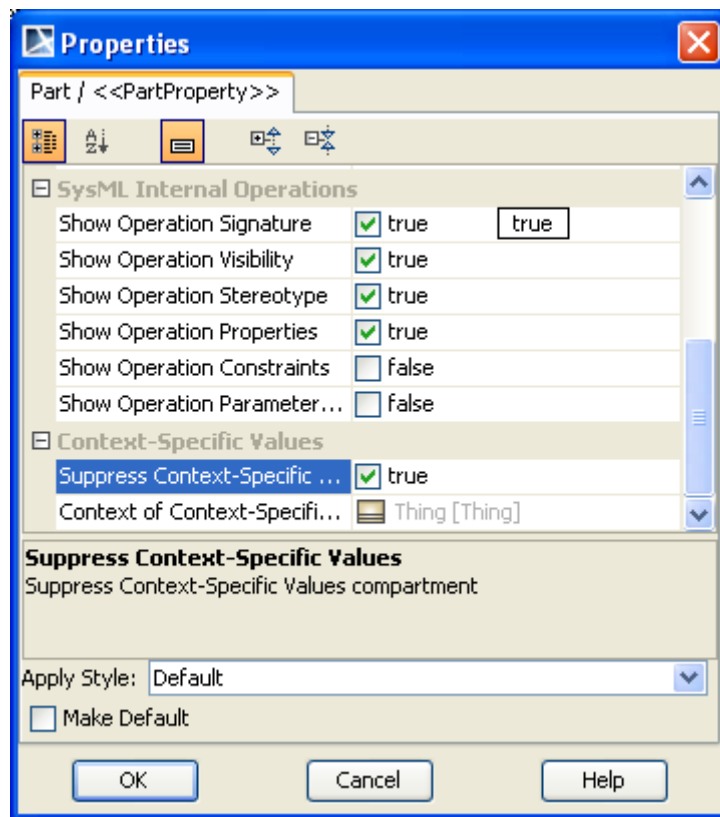

Figure 228 -- Symbol(s) Properties Dialog
- In the **Symbol(s) Properties** dialog, set the value of the **Suppress Context Specific Values** symbol property under the **Context Specific Values** group to **false** by clearing the check box (Figure 228).
- In the **Symbol(s) Properties** dialog, set the value of the **Suppress Context Specific Values** symbol property under the **Context Specific Values** group to **true** by selecting the check box (Figure 228).